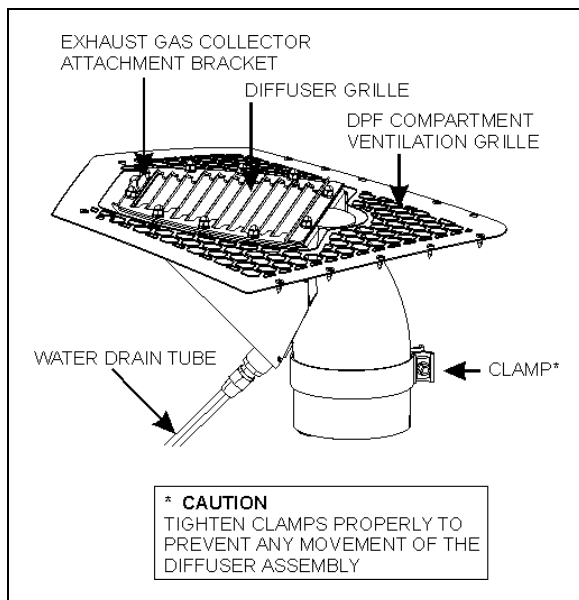
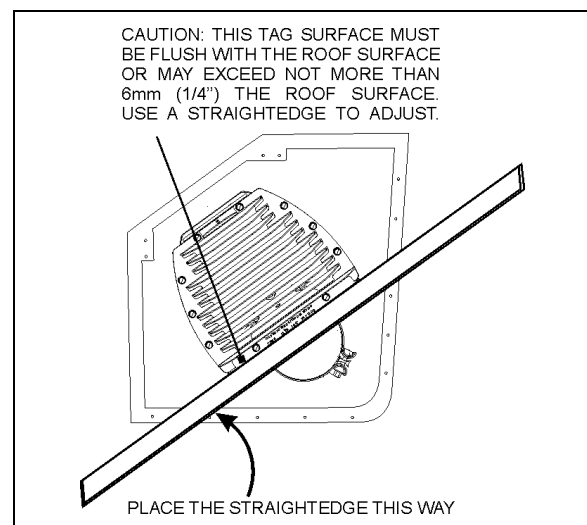

FIGURE 9: DIFFUSER ASSEMBLY
FIGURE 11: DIFFUSER POSITION ADJUSTMENT 04015\_2
3. Using a straightedge, adjust the diffuser assembly level. The top surface of the tag fixed on the diffuser grille must be flush with the roof surface (fig.9). It may exceed about 1/4in (6mm). Place the straightedge as shown on figure 11.